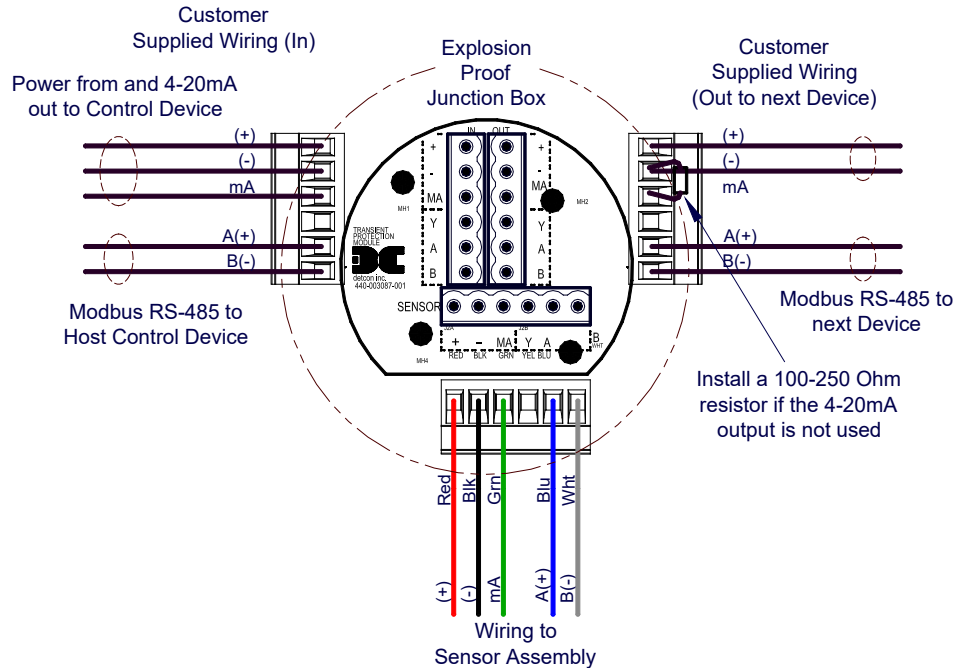

Figure 14 Sensor Wire Connections
Proper electrical installation of the gas sensor is critical for conformance to Electrical Codes and to avoid damage due to water leakage. Refer to Figure 13 and Figure 14 for proper electrical installation.
- b) Observing correct polarity, terminate the 3-conductor 4-20mA field wiring (+, -, mA) to the sensor assembly wiring in accordance with the detail shown in Figure 14. If the 4-20mA output is not used, the green wire from the sensor must be connected to the (-) terminal on the Transient Protection Module.
- a) If applicable, terminate the RS-485 serial wiring as shown in Figure 14. Use the second plug (Out) as termination point on the customer side to facilitate a continuous RS-485 serial loop